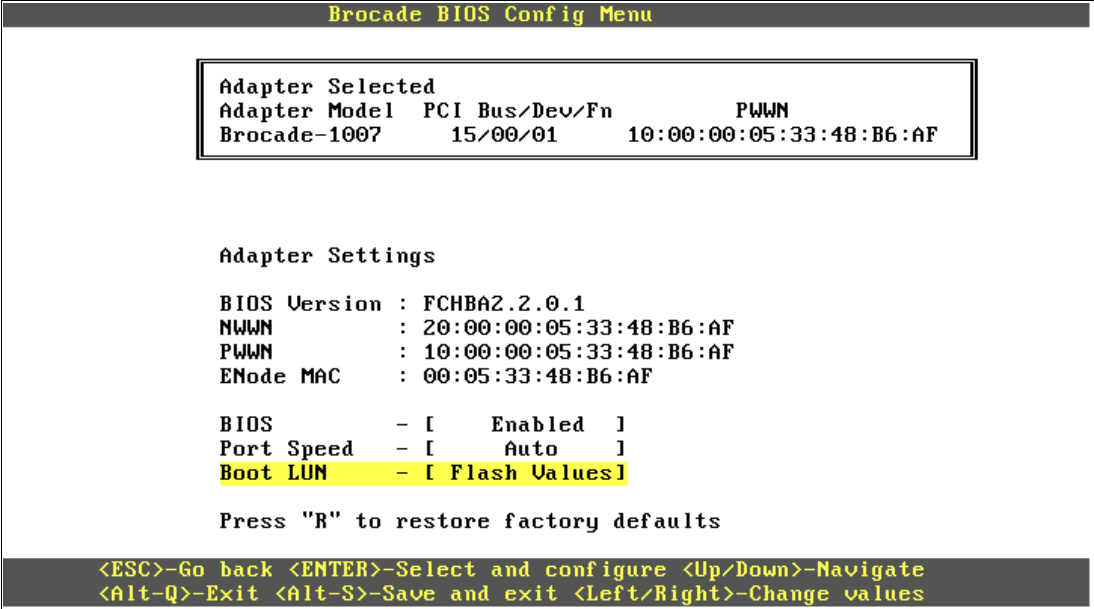

Figure 9-207 Brocade BIOS Config Menu panel
12. In the Adapter Settings panel (Figure 9-207):